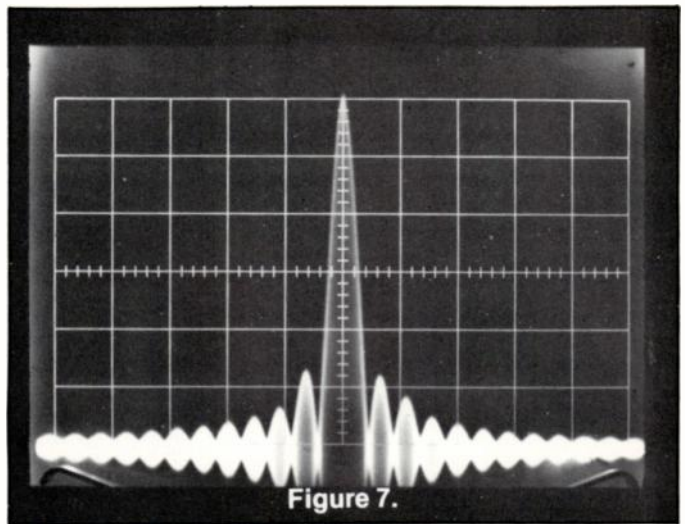

Figure 7.
3. Single Pulse: Figure 7 displays the receiver response to a single RF pulse with repetition rate $<1/\Delta T$. Again the output closely represents the expected Fourier transform and pulse width is easily determined.